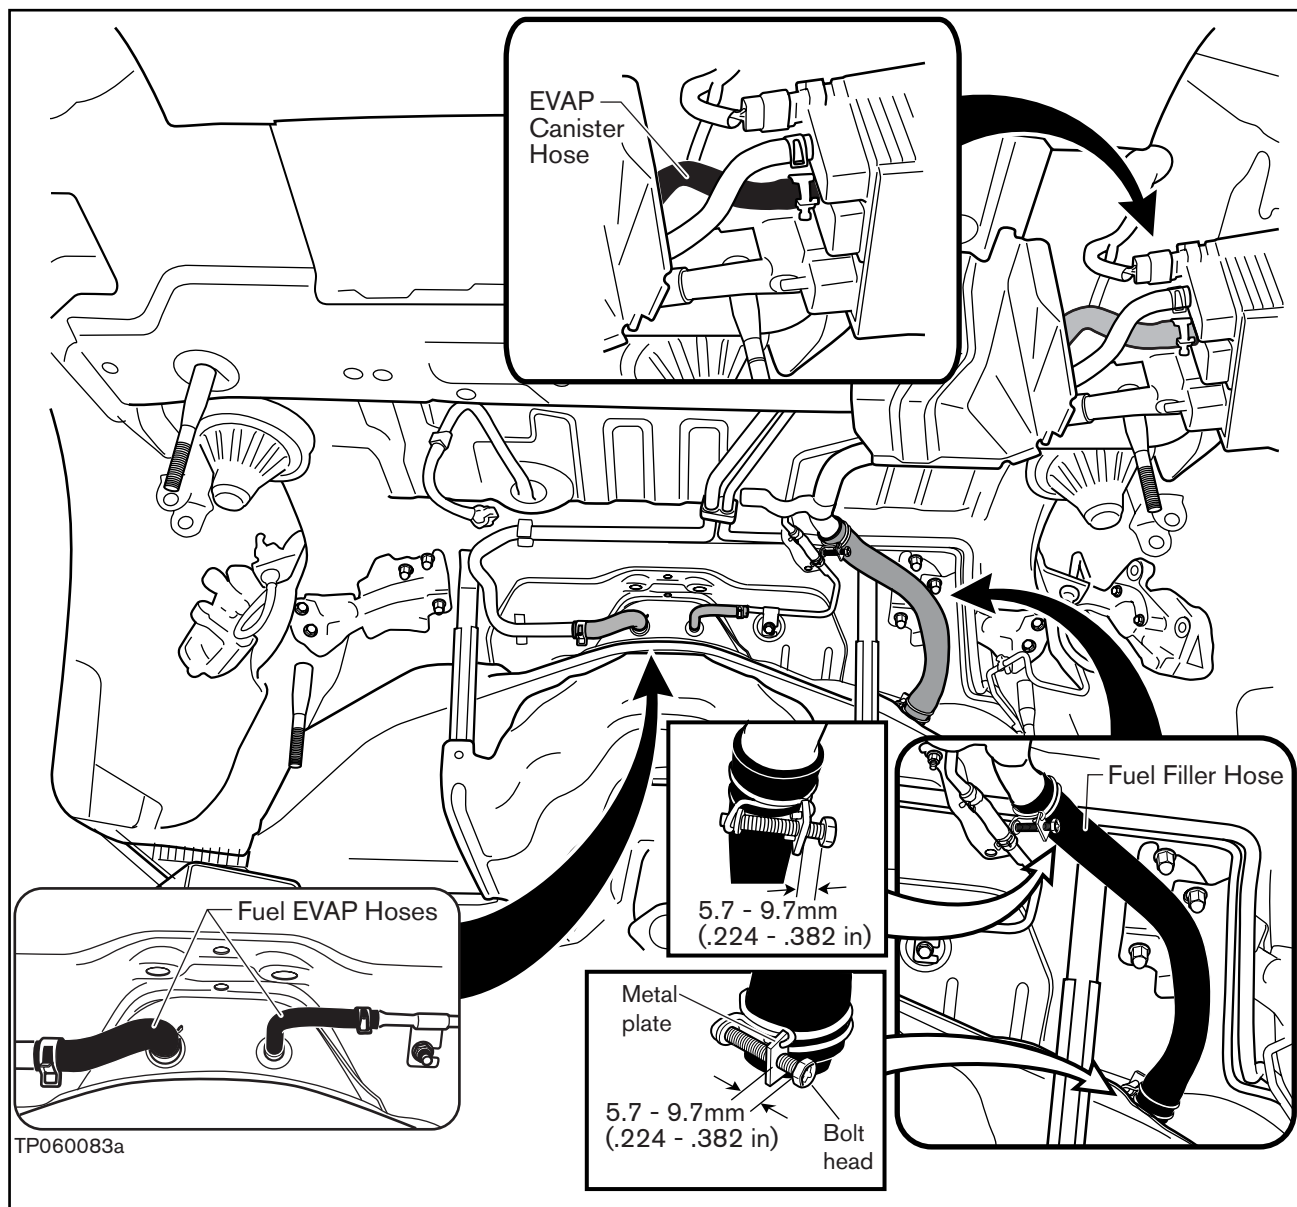

Figure 32
32. Remove and replace the four fuel hoses (provided in the kit). See Figure 32.
- Tighten the fuel filler hose clamps so that the distance between the bolt head and metal plate is set to the proper dimension (see Figure 32).